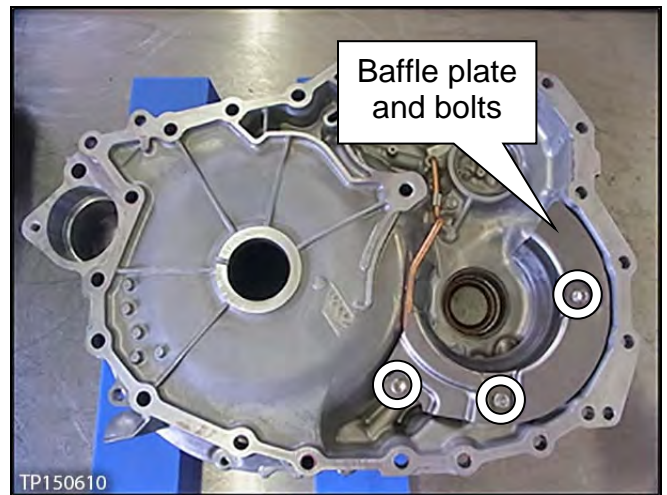

Figure 52
8. Install the baffle plate with three (3) bolts (see Figure 52).